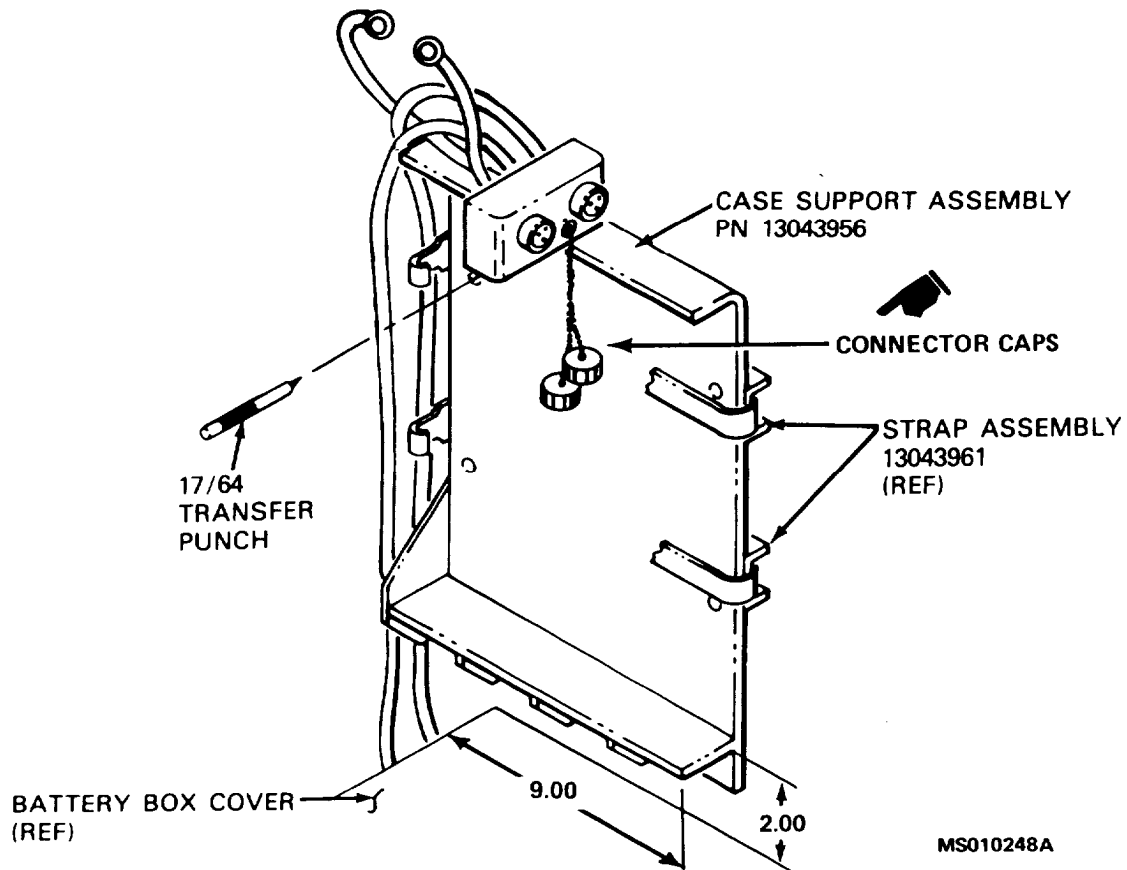

FIGURE3-5. CASE SUPPORT LOCATION
a. Position the case support assembly PN 13043956 against the curbside wall over the vehicle battery box cover, holding the 2-inch and 9-inch dimension as shown in figure 3-5.
b. Holding the case support firmly against the curbside wall, obtain drill center of the upper left mounting hole by striking 17/64 diameter transfer punch hard to make a deep impression (reference figure 3-5).